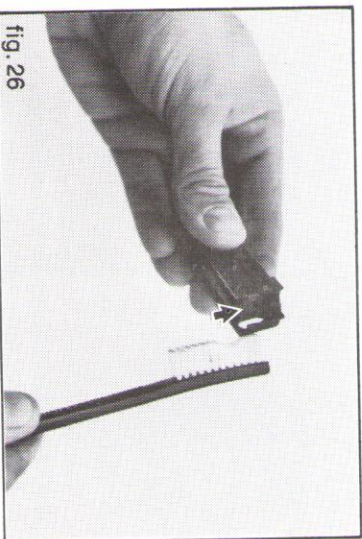

fig. 26
5. When cleaning the bolt, pay particular attention to the area around the firing pin, extractor and supporting plate (fig. 26) making certain that all powder residue is